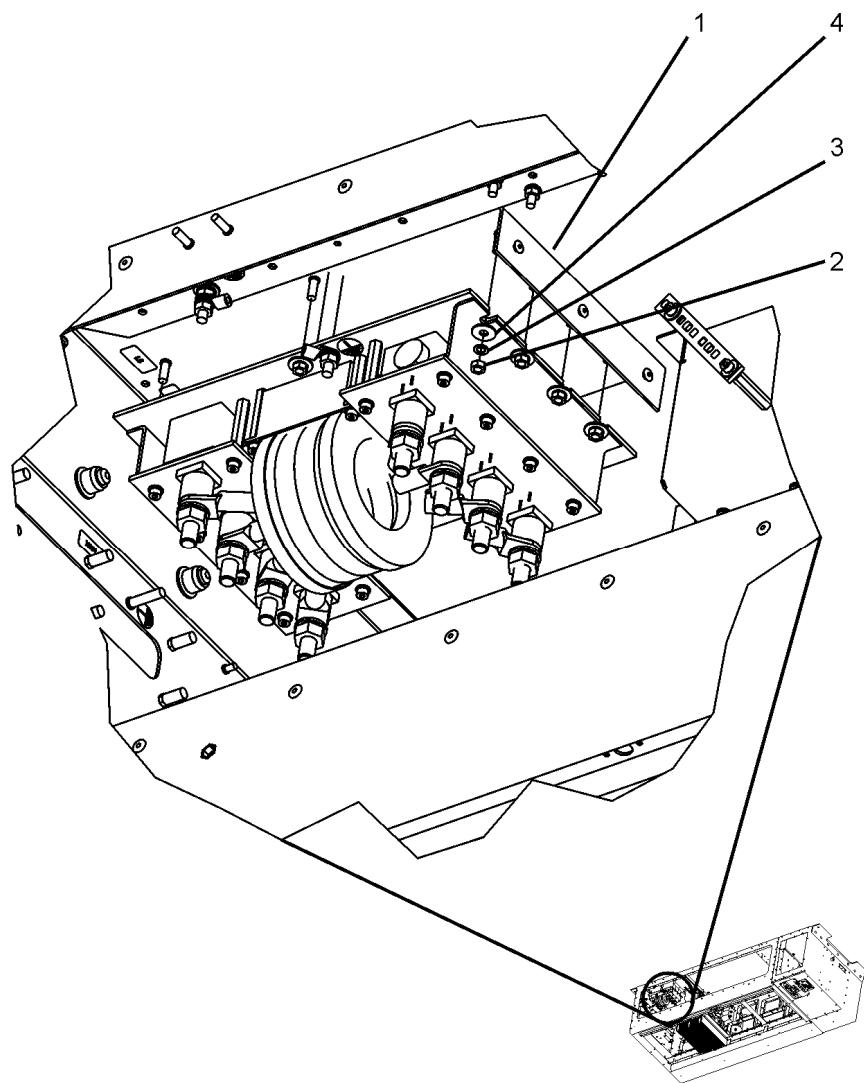

Figure 5-27: A307 Anchor Points
6. Detach A307 (see Figure 5-27). The A307 (1) is suspended from ten anchor points (four on each end and one on each side, in the middle) and is held in place by M5 nuts (2), M5 Schnorr washers (3) and M4 flat washers (4) at each point. Remove these fasteners to detach the A307.
2. Insert A301 (see Figure 5-27). Insert the resistor by aligning the mounting slots on the module base with the anchor points. Orient the module with the grounding post toward the front of the APS, as shown in the figure.
3. Attach A307 (see Figure 5-27). The A307 (1) is suspended from ten anchor points (four on each end and one on each side, in the middle) and is held in place by M5 nuts (2), M5 Schnorr washers (3) and M4 flat washers (4) at each point. Affix these fasteners and tighten to 31 lb-in (3.5 Nm) of torque.